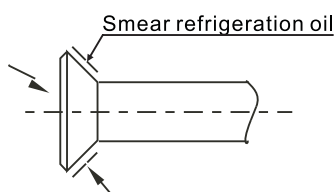

Figure 5.1
b. Smear the refrigerator oil (it must be engine oil which is compatible with the cooling medium of this type) on the outside surface of flared joint and the conical surface of connecting nut and screw it 3 or 4 rounds with your hand (Fig. 5.1) before screwing the flared nut up.